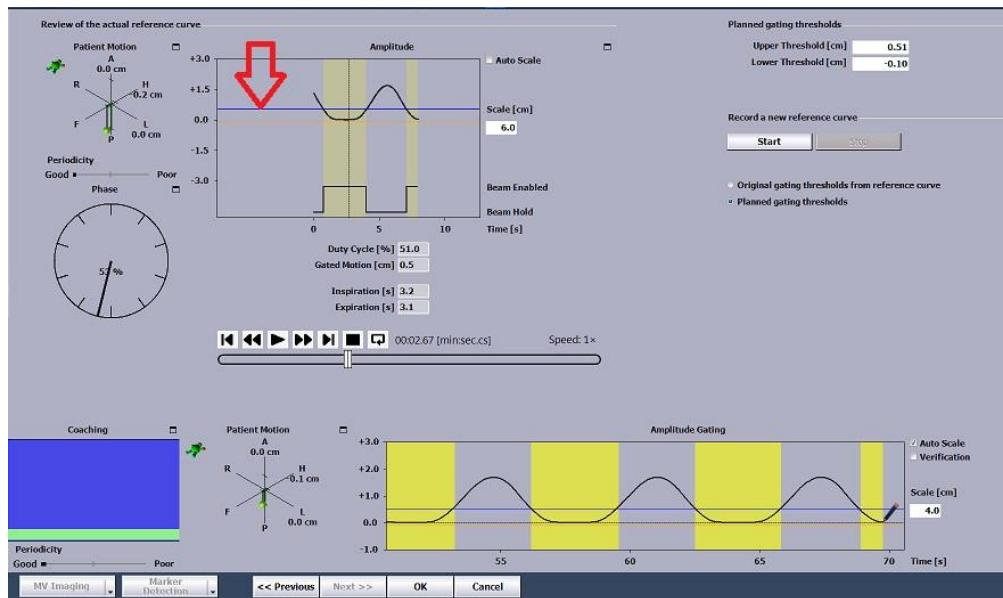

Figure 54: Changing Threshold on Reference Curve
12. The acquired reference curve shall be shown as in Figure 54. Drag the blue and orange gating threshold lines on the reference curve to set a desire gated period. Select **OK** to continue.